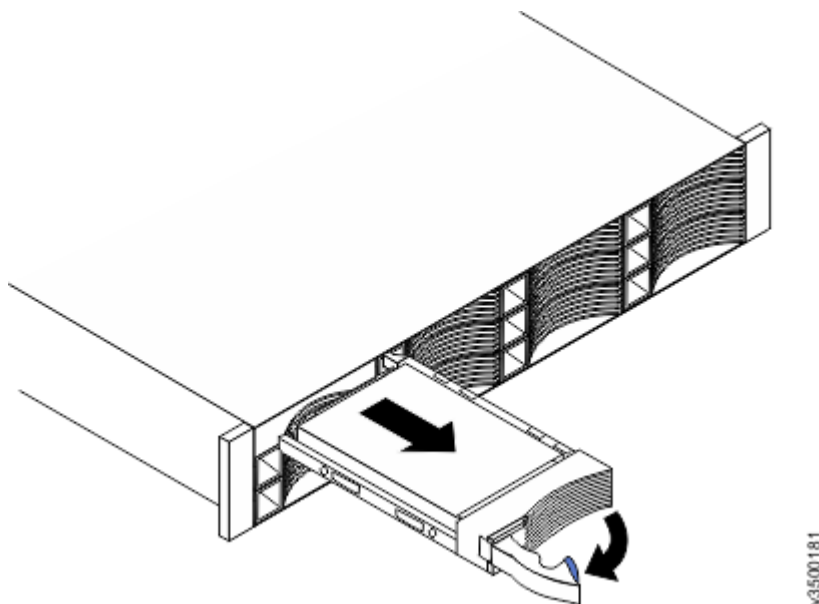

Figure 103. Unlocking and removing a 3.5-inch drive from its slot
5. Pull out the tray handle to the open position (see Figure 103 on page 156).